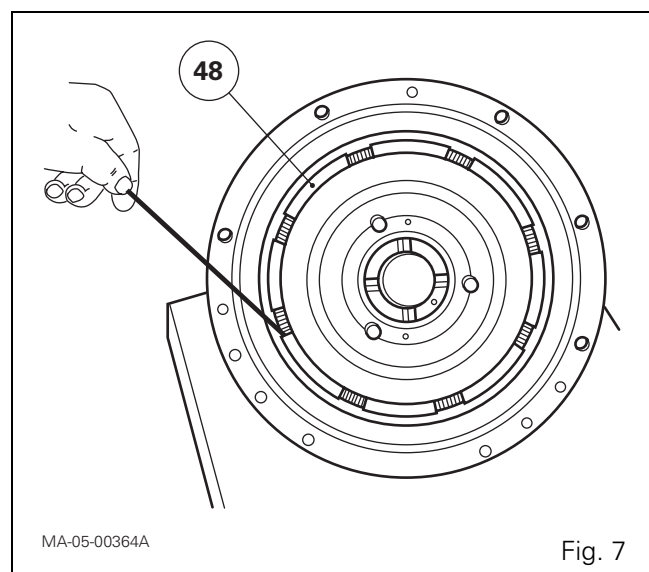

Fig. 7
11. Take off circlip (37). Remove the tab washer (38) and washer (39).
12. Separate the shaft (36) from the ring carrier (33).
13. If necessary, remove screws (34) (41). Separate and put aside the ring carrier (33) from the cover.
14. Remove piston (48) (Fig. 7) by lightly tapping the cover with a wooden wedge or using a jet of compressed air.
15. Remove seals (22) and (23) and discard them.